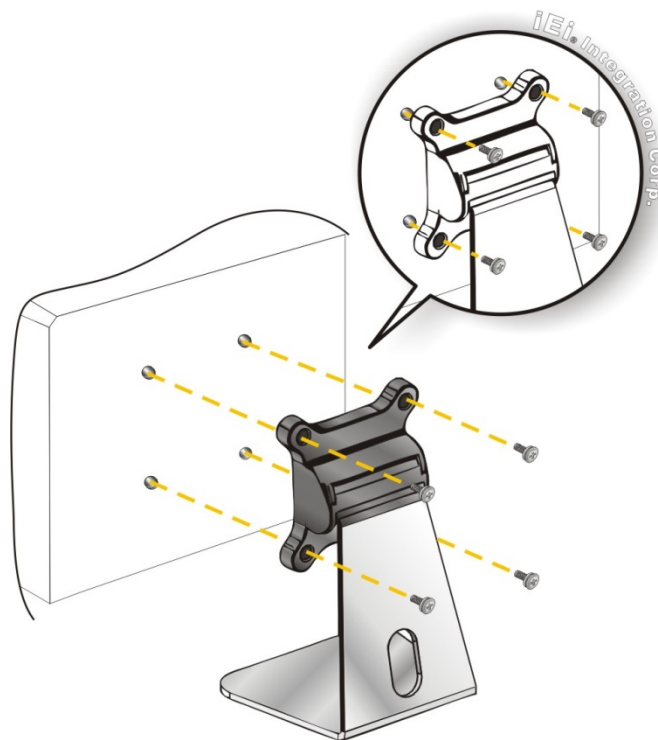

Figure 3-11: Stand Mounting
Step 2: Secure the system to the stand with the supplied retention screws (**Figure 3-11**).